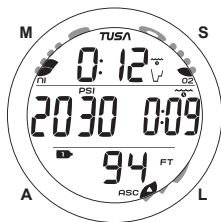

Fig. 74 - NO DECO MAIN
**NORM No Deco Main**, information includes (Fig. 74) -